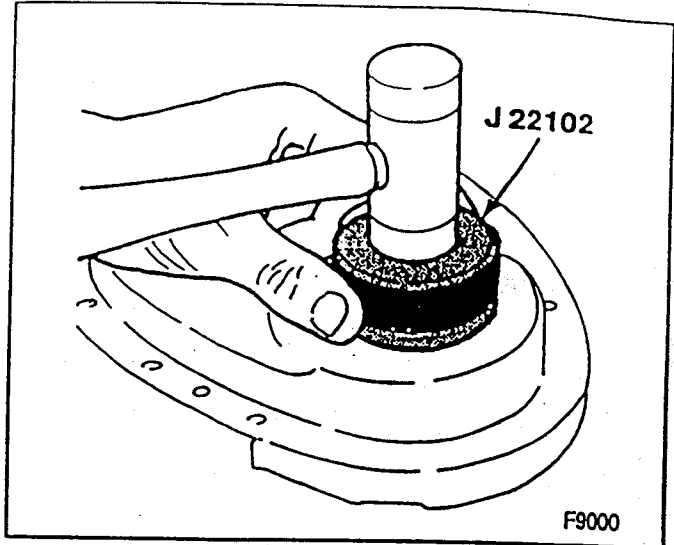

Figure 51—Installing the Crankshaft Front Seal
1. Crankshaft front seal. Use J 35468 (5.0L and 5.7L engines) or J 22102 (7.4L engines) (figure 51). The open end of the seal must be facing the inside of the front cover.